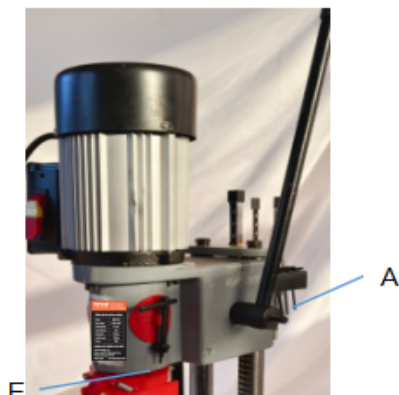

Fig. 3
2. Raise mortising machine head (E) Fig. 3, to the up position by turning handle (A) clockwise.